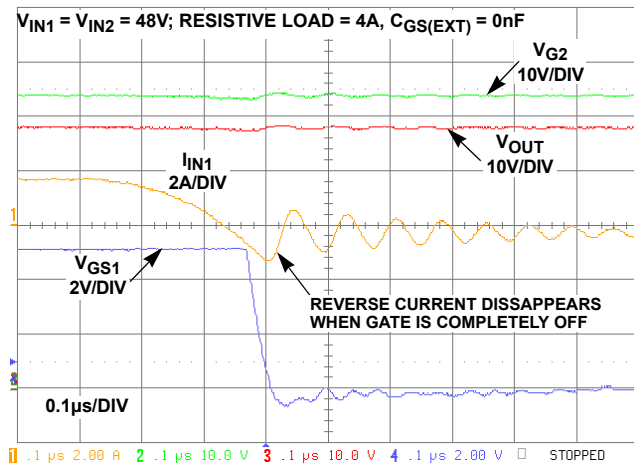

FIGURE 21. FAST SPEED TURN-OFF (MOSFET WITH QTOT = 8.4nC)
tDELAY(HS) is the High Speed Comparator internal worst-case time delay. The setup in Figure 17 can be used to perform the Input dead-short test; a pulse generator is connected between Gate-Source of QSHORT1 (use pulse mode single shot, set the frequency to <10Hz and pulse width of approximately 10ms, tRISE = 1µs). Follow steps 1 through 5 in the two feed parallel operation section. Make sure that both feeds operate in parallel current sharing mode. Proceed with the short test by applying the single pulse to the gate of QSHORT1. Once turned on, QSHORT1 shorts VIN1 causing it to fall quickly (in less than 10µs). Figures 21, 22 and 23 show the results for different combinations of CGS1 and load current. Make sure to connect the VIN1 shorting-MOSFET terminals as close as possible to the VIN-GND (J4 to J6) terminals on the EVAL board to minimize lead impedance and reduce parasitic ringing.